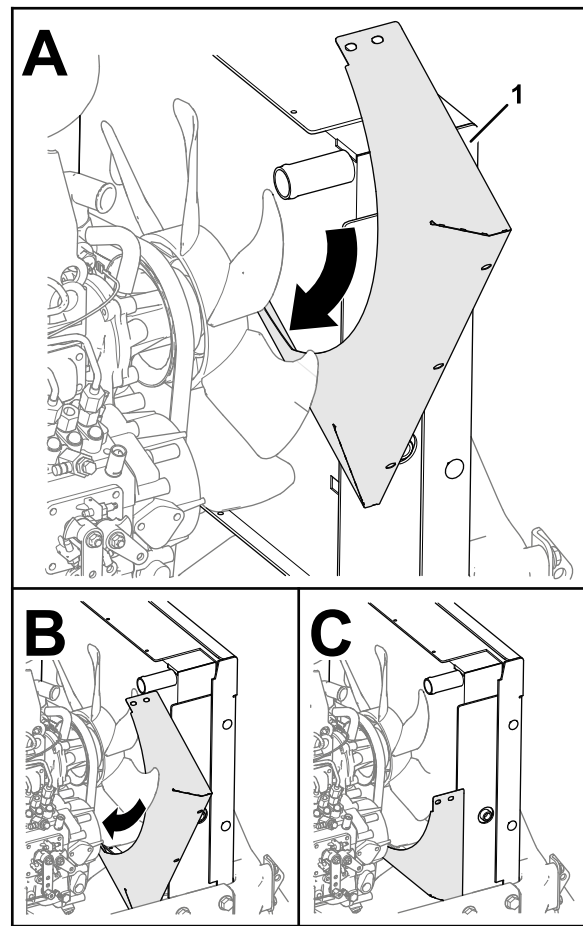

Figure 33
1. Align the bottom fan shroud to the machine as shown in Figure 33.